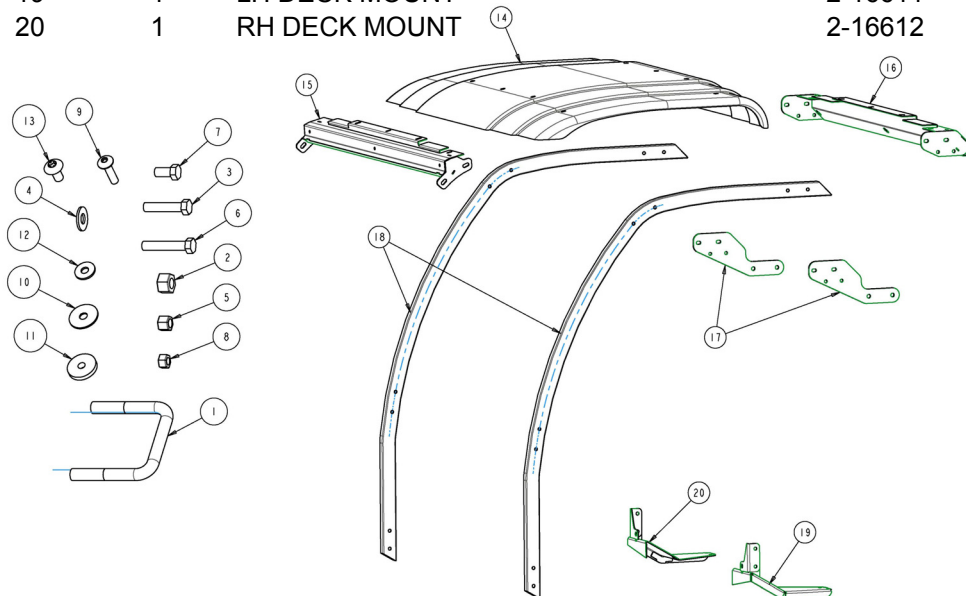

Figure 1
2. Unpack and identify components (**Figure 1**).